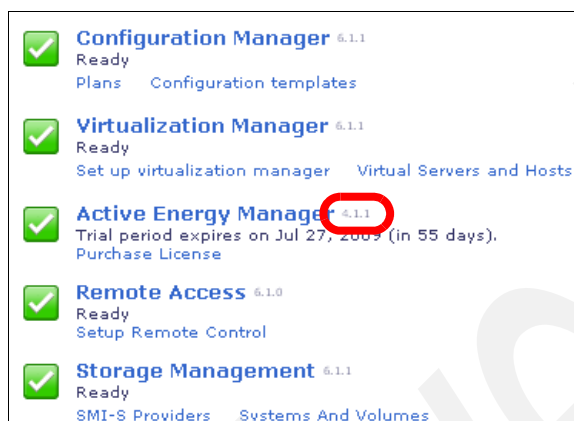

Figure 3-24 Welcome window of the Web interface
17. Restart IBM Systems Director Service, and then verify in the Manage tab of the Welcome page that the version is 4.1.1 for Active Energy Manager, as shown in Figure 3-24.